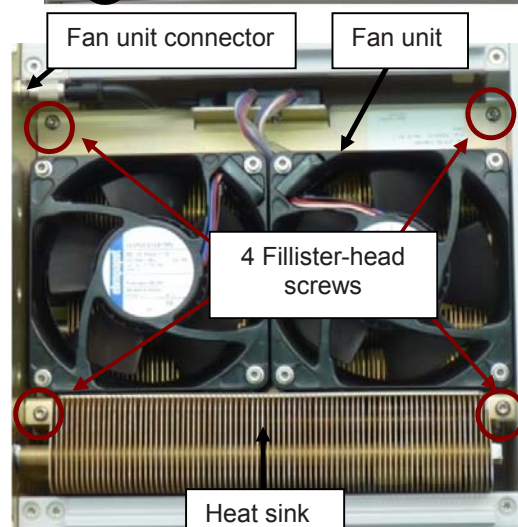

figure 5-1 Fan unit and heat sink
3. Clean the ribs of the heat sink (see *figure 5-1 Fan unit and heat sink*) very carefully with a **soft** brush (not metallic!). **Take care that the material is not scratched or damaged.**